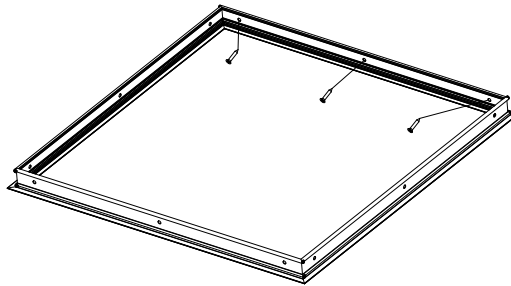

Figure 2
**2** Position the assembled drywall flange kits into their holes and secure them using the ST4.2\*30 Countersunk Head Self-Tapping Screws. (See Fig 2).